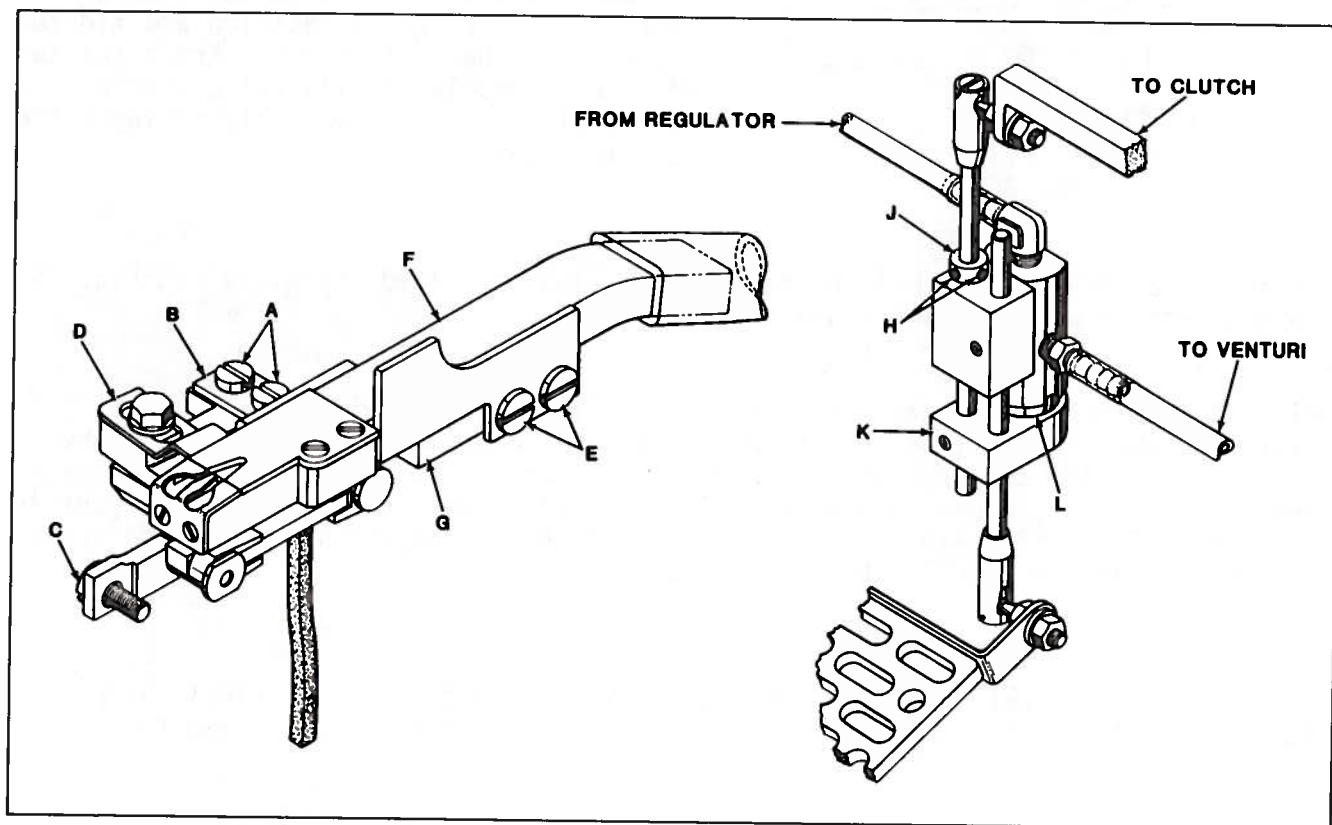
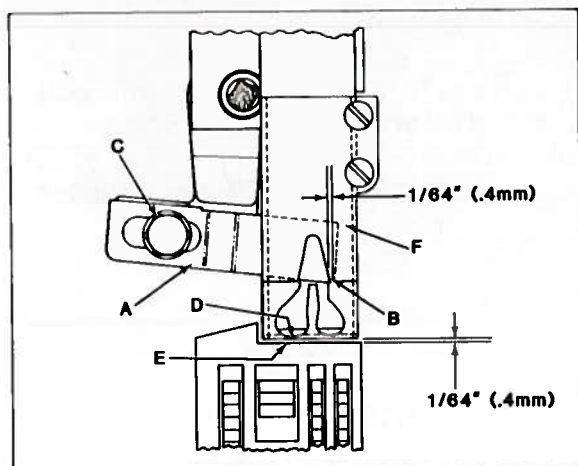

Fig. 35
Fig. 36
2. Remove "AIR-KLIPP" chain cutter assembly from the machine by removing screws (A, Fig. 35), washer plate (B) and screw (C).
When the movable knife (A, Fig. 36) travels from extreme left to the right; its cutting edge must be even with the cutting edge of stationary knife - Ref. point B.
3. Re-assemble "AIR-KLIPP" chain cutter assembly, the main feed and plate (B, Fig. 35) to the machine with screws (A and C).
With "AIR-KLIPP" chain cutter assembly in position, temporarily replace throat plate and check for a 1/64 inch (.4mm) clearance between front edge of air tube (D, Fig. 36) and rear edge of throat plate (E), as shown. If a clearance adjustment is necessary, loosen screws (E, Fig. 35) and adjust the air tube (F) front to back on "AIR-KLIPP" chain cutter base as required. Re-adjust movable knife pressure as outlined in STEP 2, then tighten screws (E).
With main stitch length set and movable knife (A, Fig. 36) positioned to its extreme right; loosen screw (C) and adjust movable knife left to right as required to extend no less than 1/64 inch (.4mm) beyond the cutting edge of stationary knife as shown in Fig. 36. Clearance must be maintained between the moving knife and the inner wall of air tube - Ref. Point F. Hold knife in position and tighten screw (C).
4. To adjust the air valve system, loosen screws (H, Fig. 35) and set collar (J) to permit actuator block (K) to just contact button of air valve - Ref. point L, when button is fully extended, then tighten screws (H). When treadle is pressed to start sewing, the air valve must open before the clutch is engaged.